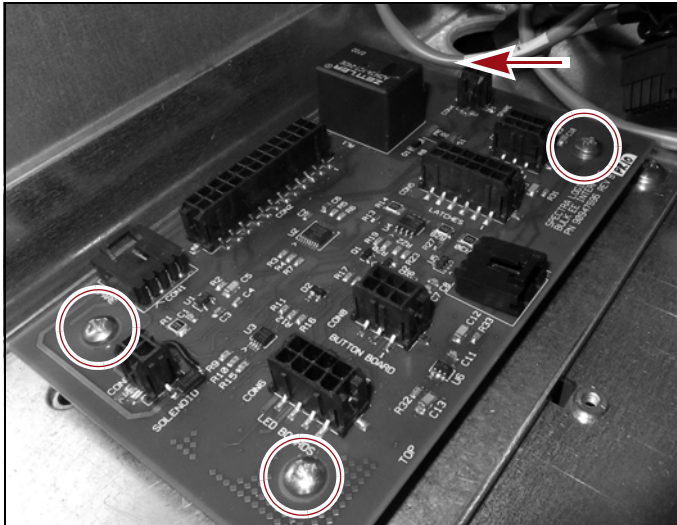

Figure 22 Remove the bulk TAP interface board.
Note: One screw is not visible in Figure 22; its position is indicated by the arrow.
- a. Orient the replacement board as it appears in Figure 22 over the screw standoffs.